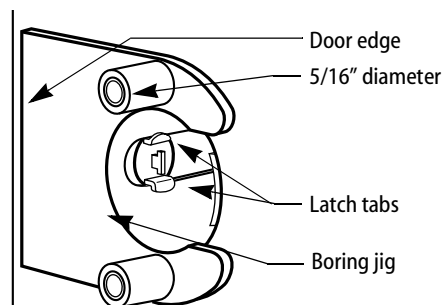

Figure 3
- 4 Install the latch and check the door swing. Latch tabs should project into the 2 1/8" diameter hole. See figure 3 in step 3.
- 1 Install the boring jig (KD303) onto the door and engage with latch tabs. Make sure the front edge of the jig is parallel with the door edge (see Figure 3).